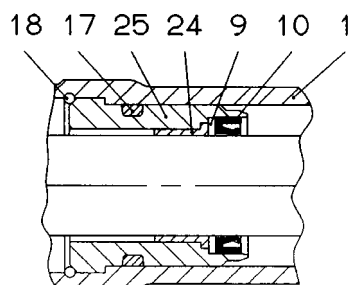

Fig. 29
- Alignment of seal (10 or 10.9) see *Fig. 29*.
- Depending on the version, instead of washer (9) and seal (10), seal (10.9) - seal and washer assembly - can be installed.